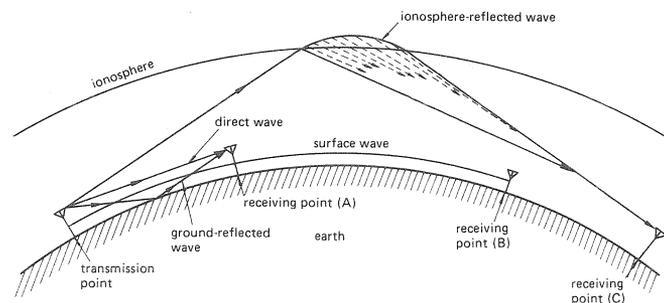

Fig. 1 Radio wave paths
The four paths shown in Fig. 1 are only the basic routes. Actually, the routes are far more complicated, due to scattering and reflection by buildings, mountains, surface of sea, etc.
As Fig. 1 shows, radio wave propagation to receiving Point (B), which cannot be seen from the transmission point, is possible by using the surface wave.